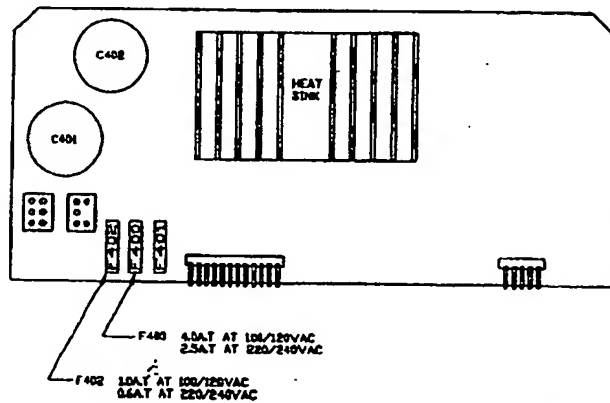

Figure 10. Changing Internal Fuses on Power Supply Board
5. Remove fuses F400 and F402 (see Figure 10), replace them with the appropriate type and value fuses (see Technical Specifications).